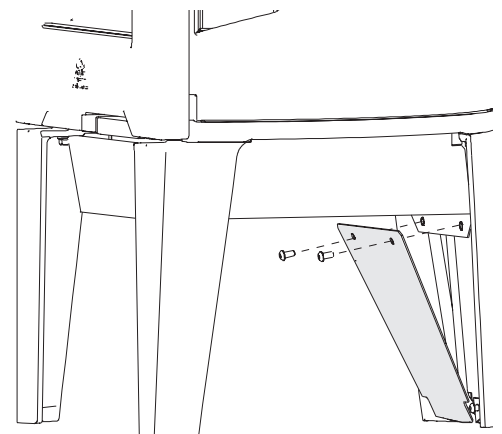

Figure 7.
10. **Remove the Utility Panel from the rear leg.** Fig. 7. Remove the upper M6 bolts and loosen the lower bolts. Rotate the panel and lift off the bottom hardware to remove the panel from the leg.